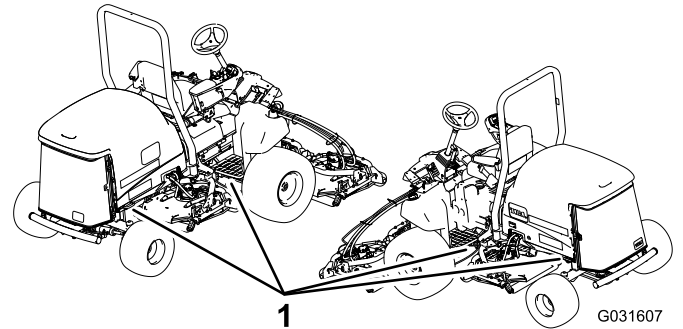

Figure 25
5. Use the metal tie-down loops on the machine (Figure 25) to securely fasten the machine to the trailer or truck with straps, chains, cable, or ropes.